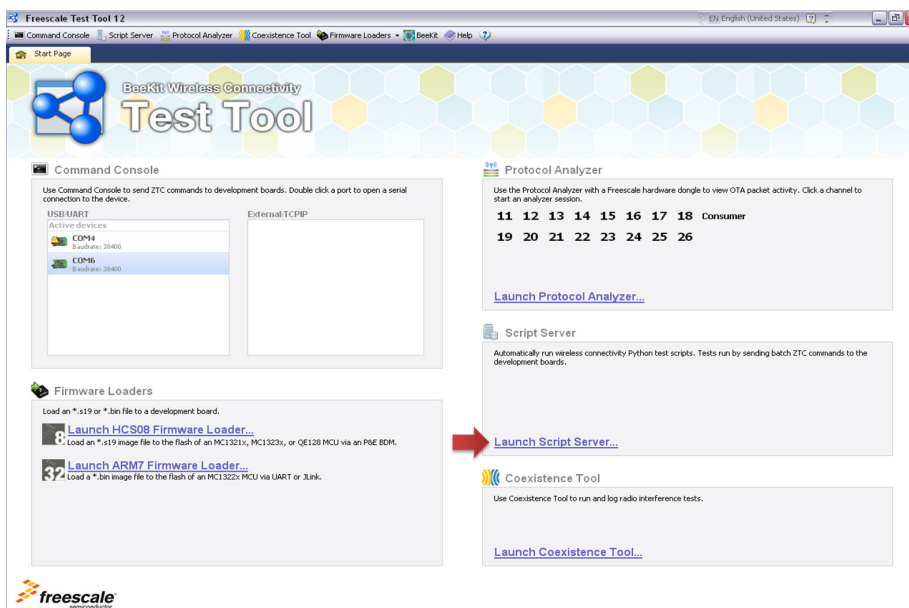
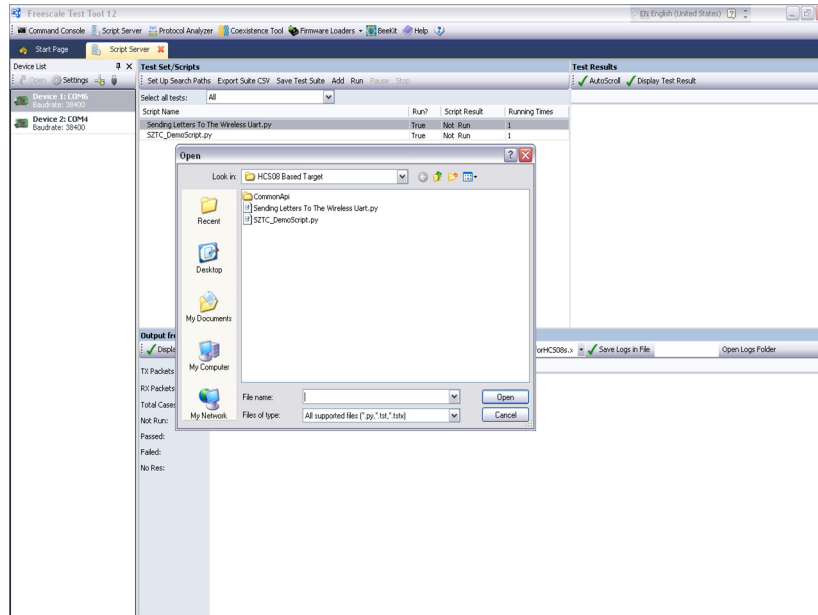

Figure 5-4. Test Tool Adding a Python (py) script
Figure 5-5. Loading a Script
- As shown in Figure 5-4, open the Script Server application by clicking on the Launch Script Server button. The Script Server window appears as shown in Figure 5-5. See the *Freescale Test Tool User's Guide* for more details about Script Server.
10. Load the Sending Letters To The Wireless Uart.py Python script, which is located in the following directory and shown in Figure 5-5.